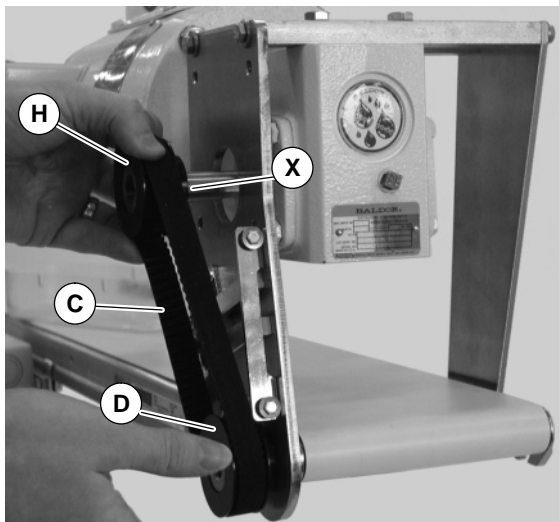

Figure 30
- Wrap timing belt (C of Figure 30) around drive pulley (H) and driven pulley (D). Attach drive pulley (H) to gear reducer shaft.